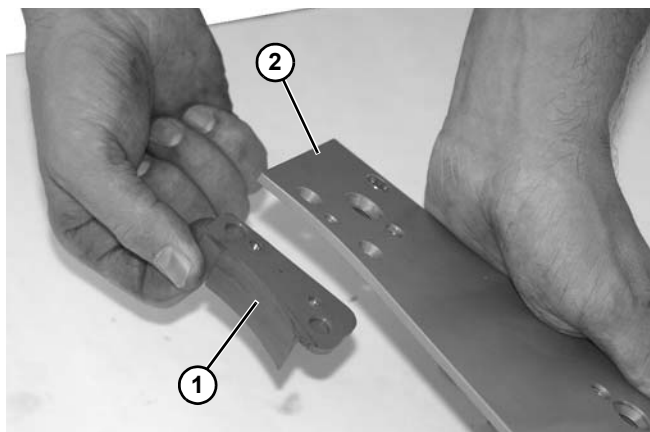

Figure 132
3. Remove lower retaining guide (**Figure 132, item 1**) from drive plate (**Figure 132, item 2**).